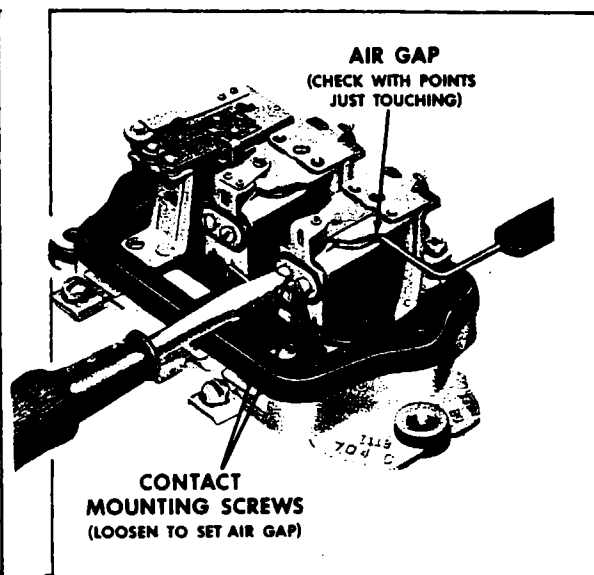

Figure 11-8. Voltage Regulator Air Gap
a. Air Gap: To check air gap, push armature down until the contact points are just touching and then measure air gap. (Refer to Figure 11-8.) Adjust by loosening the contact mounting screws and raising or lowering contact bracket as required. Be sure the points are lined up and tighten screws after adjustment.